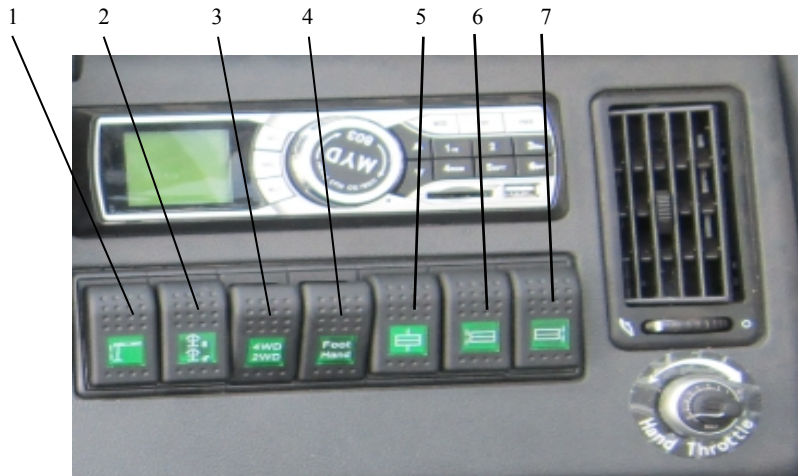

Figure 06 – 3 Right dash
12. **CAB HEATER POWER SWITCH** – Used to turn on the cab heater. The controls to adjust heat are on the **AIR CONDITIONER CONTROL PANEL (5)** (See Figure 06 – 1).
1. **OUTRIGGER EXTEND / RETRACT MASTER SWITCH** – Used with switches (12, 13, 15, 16 in Figure 06 – 1) to extend and retract the outrigger beams and jacks. Push down to retract, up to extend.